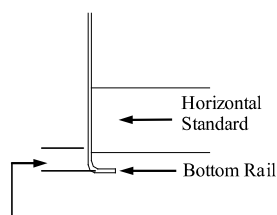
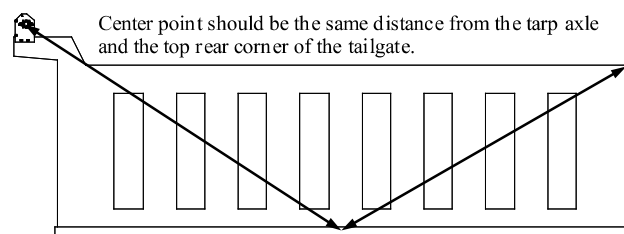
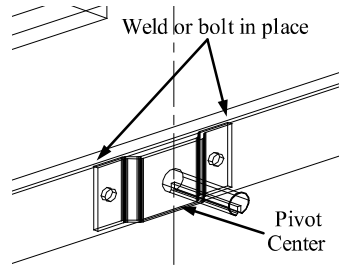

Figure 3a
Figure 3
Figure 4b
**Finding the placement for the underbody assembly (pivot point).** See Figure 3. To find the placement for the underbody assembly you must find the center point of the dump body. Using two tape measures, hook the end of one to the tarp axle and the end of the other to the very top rear corner of the tailgate and measure toward the center at the bottom of the body. At the distance where the tape measures cross reading the same measurement is the center point of the system (Note: the pivot point must be at least 3-1/2" from nearest horizontal standard, adjust forward to fall short of tailgate, adjust rearward to fall short of roller box), see figure 3a. Then using a 1-1/2" hole saw, cut a hole in the bottom rail. This is the pivot point of the system. Note: Move pivot 3-1/2" in front of standard for the hex spring retainer to clear if pivot point hits the cross member.
**Installing the optional clock spring assembly,** see figure 3 for establishing pivot point. After marking the pivot point place the pivot pin as shown in figure 4b and mark holes to be drilled, once holes have been marked, drill 1/2" holes and bolt pivot to body using the supplied bolts, (or weld) insuring that the spring notch is pointed down.